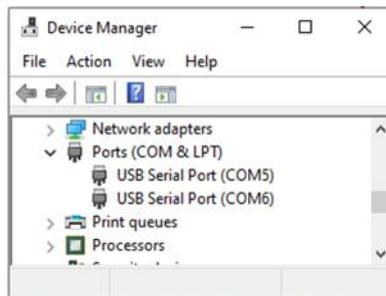

Figure 3: Windows – COM Ports
- For Windows, the two COM ports are displayed in the Device Manager (see Figure 3).
The lower numbered COM port (COM5 in Figure 3) is for the DA16200/DA16600 debug interface. The higher numbered COM port is for the DA16200/DA16600 AT command interface.